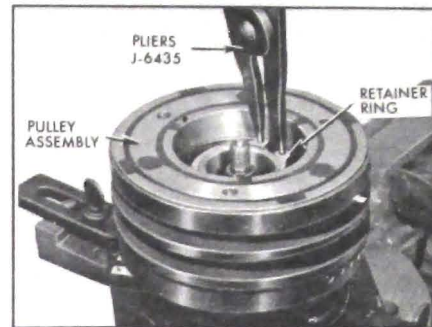

Figure 11-101—Removing Pulley Retainer Ring
2. Remove pulley assembly retainer ring, using J-6435, No. 26 Truarc pliers. See Figure 11-101.